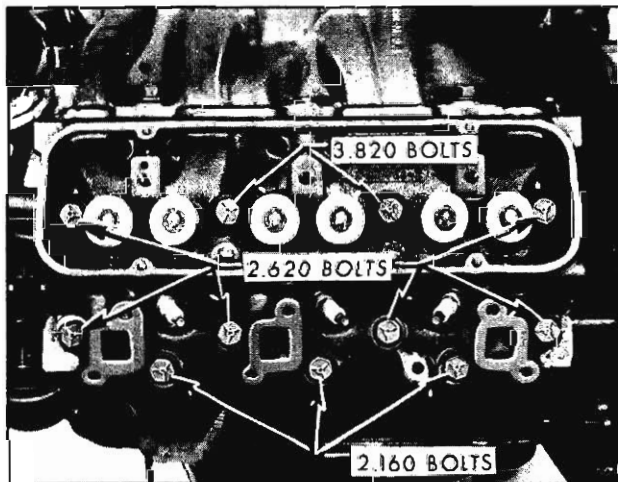

Fig. 3-110 Cylinder Head Bolt Installation
5. Clean and coat the head bolts with sealer. Install bolts as shown in Fig. 3-110.